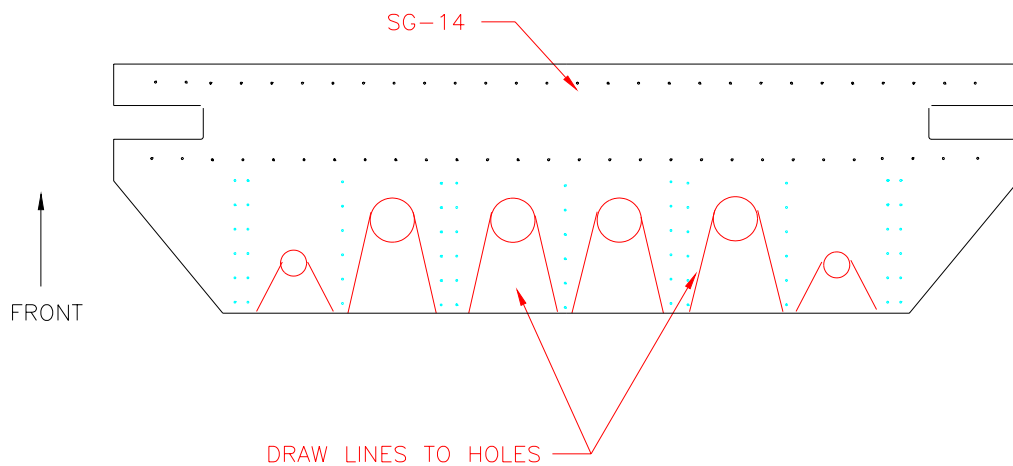

Figure 14.1.14
30) From the center of each bottom existing channel rivet hole measure over  $1/4''$ . Figure 14.1.14. From the outside edges, measure over the distances from Figure 14.1.14. Mark lines at these locations. From these marks draw lines up to the holes you just cut out.